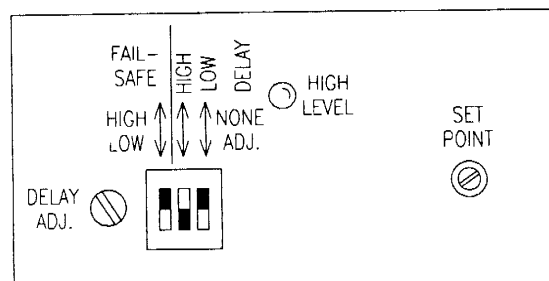

FIGURE 3-1 Control Panel Layout
1. SET POINT control (Figure 3-1)
2. HIGH LEVEL indicator (red LED, Figure 3-1)
3. FAIL-SAFE switch (Figure 3-1)
4. HI and LO DELAY switches (Figure 3-1)
***NOTE:** Underlined actions indicate low level fail-safe mode of operation. Opposite relay operation occurs when a high level fail safe mode is selected with **FAIL-SAFE** switch (item 3).*
5. DELAY ADJ. control (Figure 3-1)